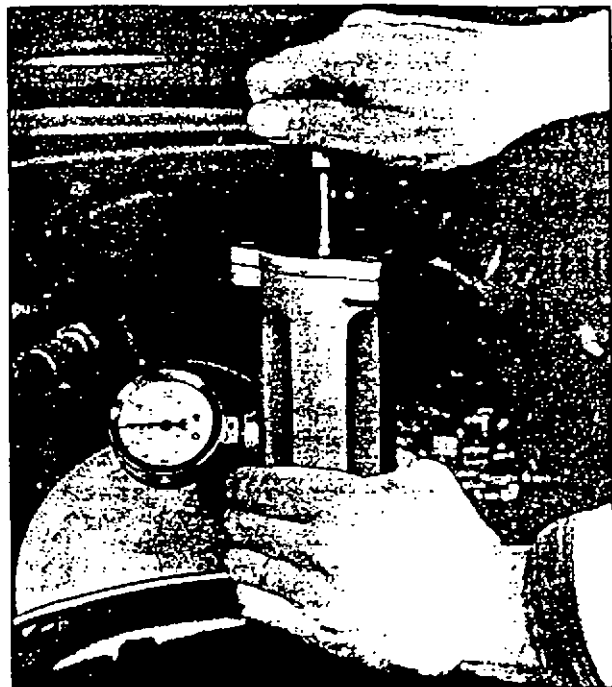

Fig. 23—Cooling System Pressure Check
2. Apply a test pressure of 3 pounds higher than the radiator cap (fig. 23). i.e. 18 pounds for a 15 pound cap.